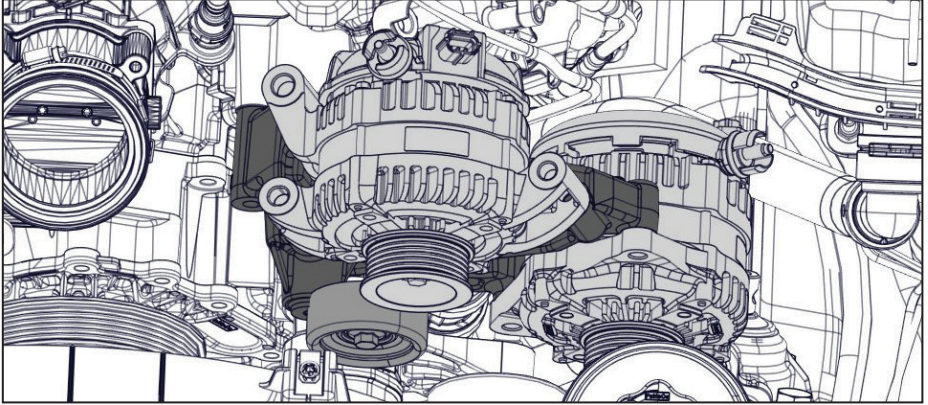

Figure 9 — Remove alternator, idler, and bracket
- If equipped:** Remove the secondary alternator (this will not be used in this installation) (Figure 9).
- Remove the Primary alternator and fasteners (Figure 9).
- Remove the idler from the alternator bracket (Figure 9).
- Remove the idler from the VMAC supplied bracket (Figure 9).
- Remove the alternator bracket (Figure 9).